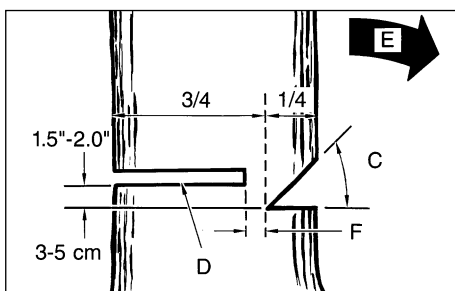

Fig. 11B
Warning: Never walk in front of a tree that has been notched. Make the felling cut (D) from the other side of the tree and 1.5 - 2.0 inches (3-5 cm) above the edge of the notch (C) (Fig. 11B)